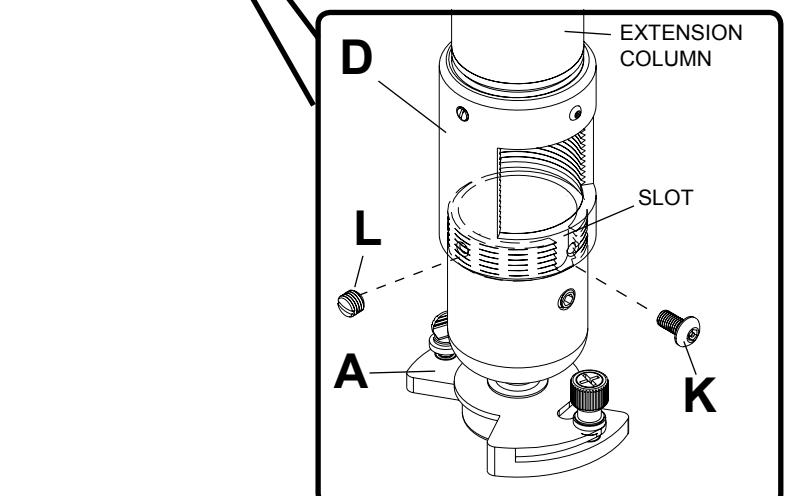

figure 4.3
Screw ball and socket mount (A) to extension column connector (D). Align slot in ball and socket mount (A) to one of the bottom holes in extension column connector (D). Insert and tighten one #10-32 x 3/8" socket pin screw (K) through extension column connector into slot in ball and socket mount (A) using security allen wrench (U). **See figure 4.3**
**NOTE:** Slotted set screws (L) are used to jam against the threads of each connecting joint to prevent any excess movement. Do not overtighten screws; overtightening screws will damage threads making it difficult to separate the products.